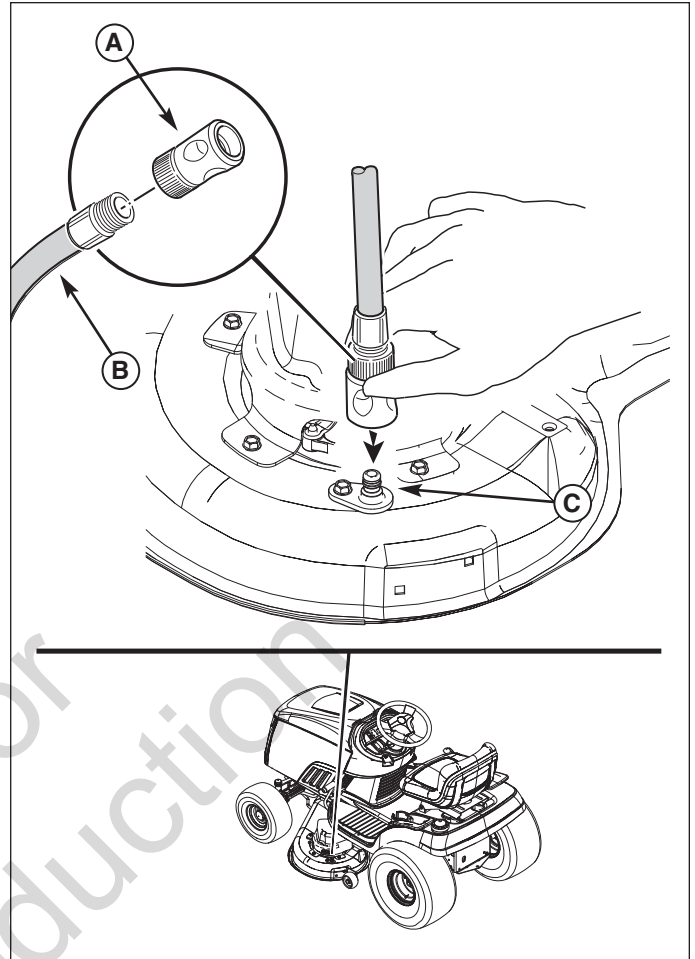

Figure 27. Mower Deck Washout Port (46" Mowers)
2. Attach the quick disconnect (A, Figure 27) to garden hose (B) and connect to washout port (C) on mower deck.